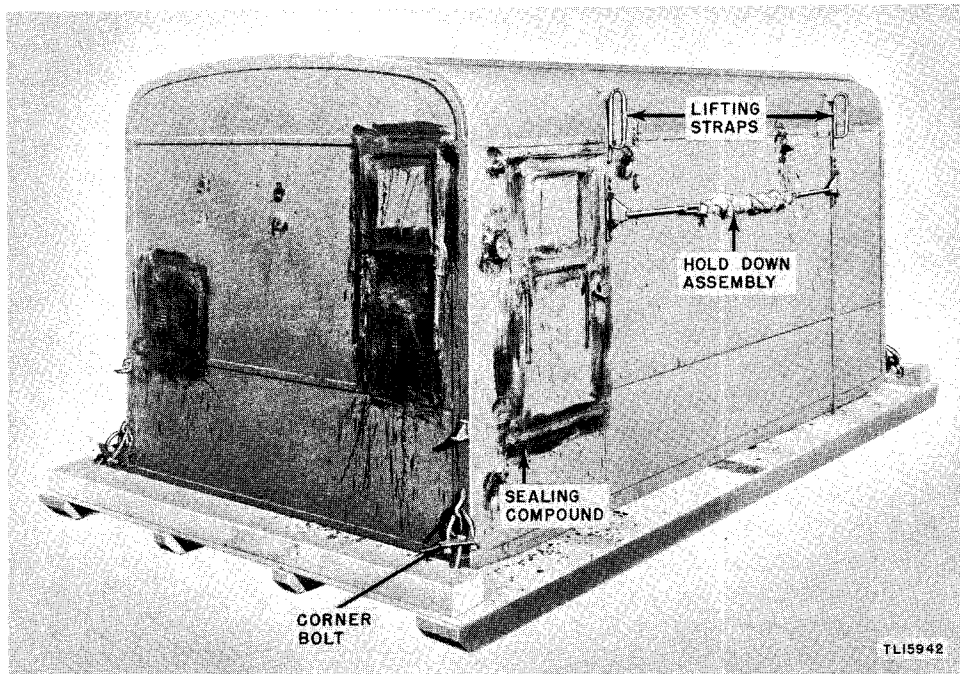

Figure 23. Shelter HO-17-A on shipping crate platform.
(6) Remove the four corner bolts to free the shelter from the crate platform. (See fig. 23.)
(1) Remove the canvas cover, roof bows, and side framing from the truck; drop the tail gate.
(2) With all equipment installed, the shelter weighs about 2¼ tons. If a suitable hoist is available, lift Shelter HO-17-A by its four lifting straps (fig. 23) and place it on the truck body so that the entrance door is toward the rear. If no hoist is available, some other method must be devised for raising the shelter to truck level and sliding it on to the truck. This work is easier if the heavy items of radio equipment are first removed from the shelter, as explained in paragraphs 189 and 190.
(3) Attach the hold-down clamps (two on